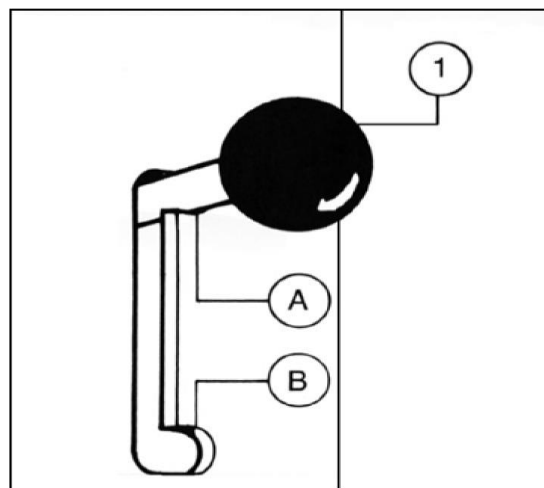

Fig. 16
- To get the machine ready for use, it is important to check if the handle is pointing up (fig 16. A) and the brake release switch is on "0" (fig 15.2).